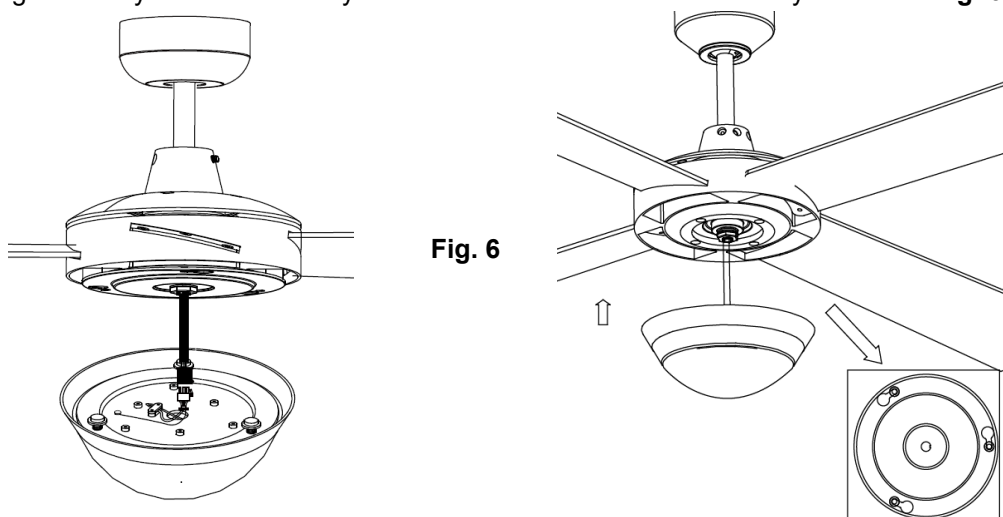

Fig. 6
2. Attach the LED light kit to the lamp base and connect wires to the LED light kit via the quick connectors. Insert the housing assembly screws into the larger ends of the key hole slots and turn the LED light kit body clockwise until the housing assembly screws are firmly situated in the narrow ends of the keyhole slots. **Fig. 6**